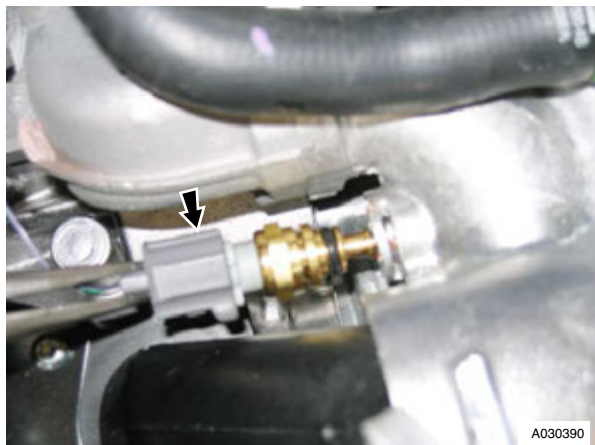

Figure 5
9. Remove sensor from housing with multiplug, then disconnect (refer to Figure 5).